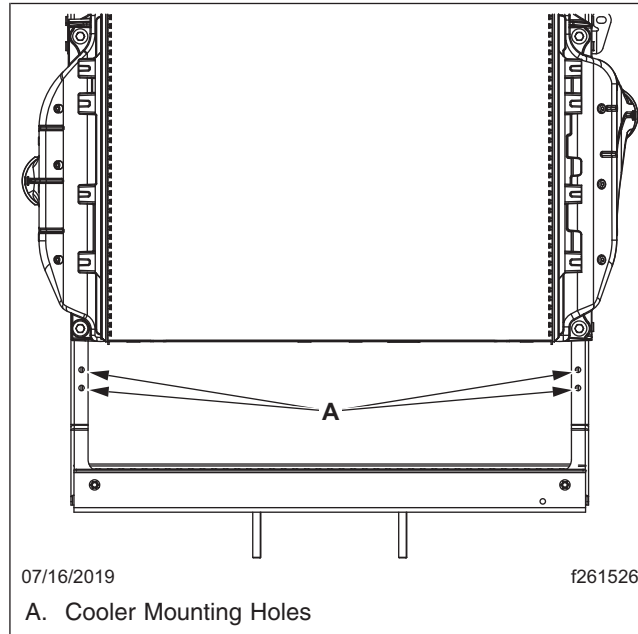

Fig. 1, Radiator Frame With Cooler Mounting Holes
3. Inspect the radiator frame for cooler mounting holes. See Fig. 1. If the radiator frame has cooler mounting holes and there are no obstructions on your vehicle, it may not be necessary to remove the hood to install the cooler.